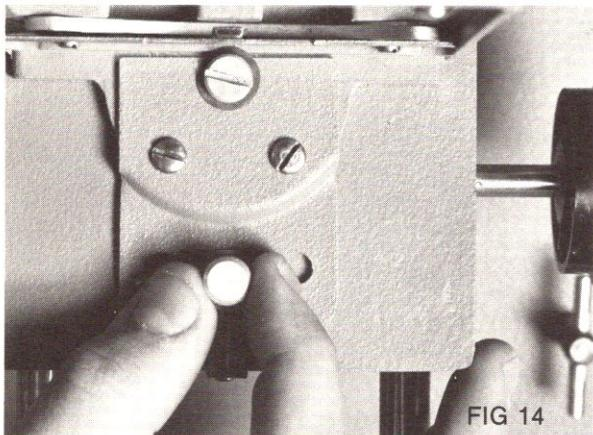

FIG 14
- a. Loosen thumbscrew (see fig. 14)